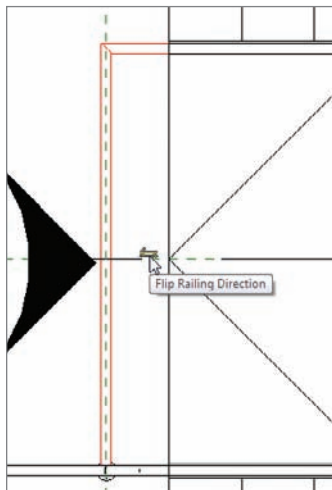

FIGURE 10.28 The finished railing
5. If you need to flip the railing, select it, and then click the blue flip grip that appears in the middle of the railing (see Figure 10.28).